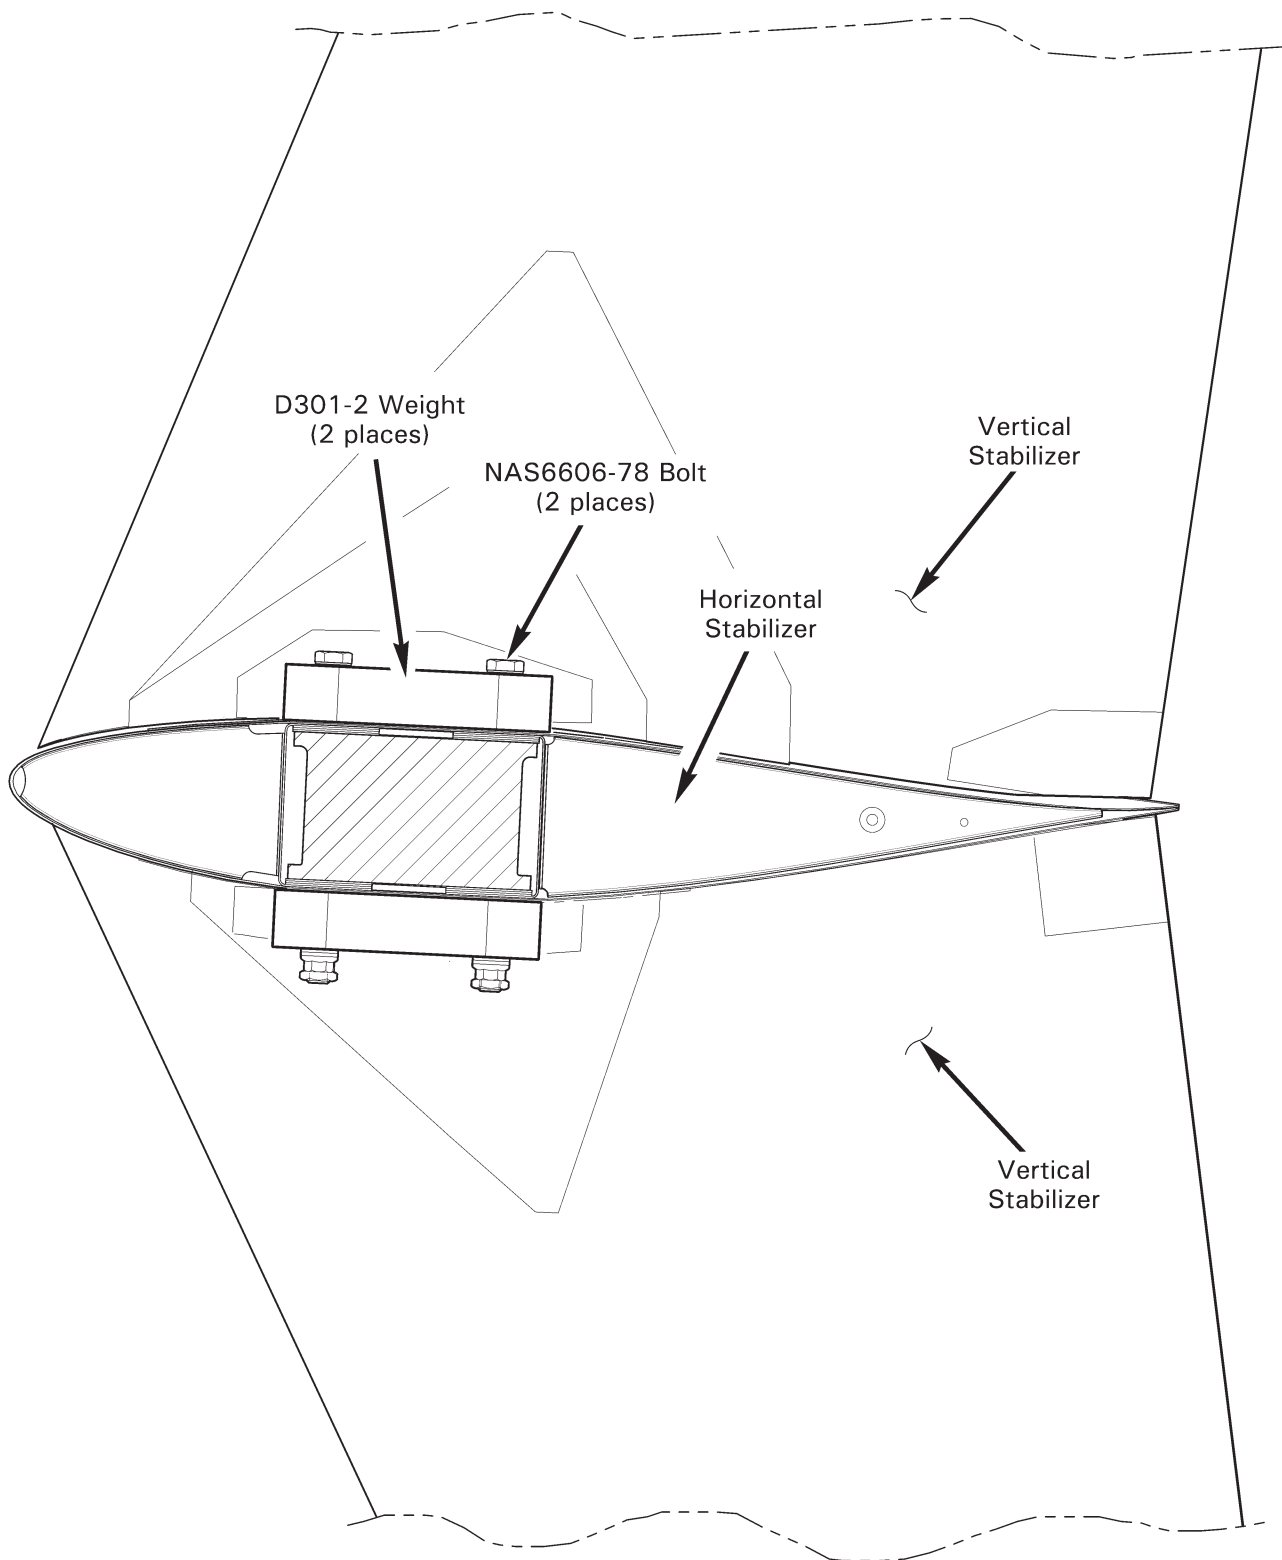

FIGURE 8-5 EMPENNAGE BALLAST
Maximum allowable empennage ballast is 3.00 lb. If empennage ballast is required per Section 8-22, two D301-2 weights must be installed as shown in Figure 8-5.
1. Refer to Figure 8-5. Remove empennage assembly, including D301-2 ballast weights, per Section 53-50.
1. Refer to Figure 8-5. Remove empennage assembly per Section 53-50.